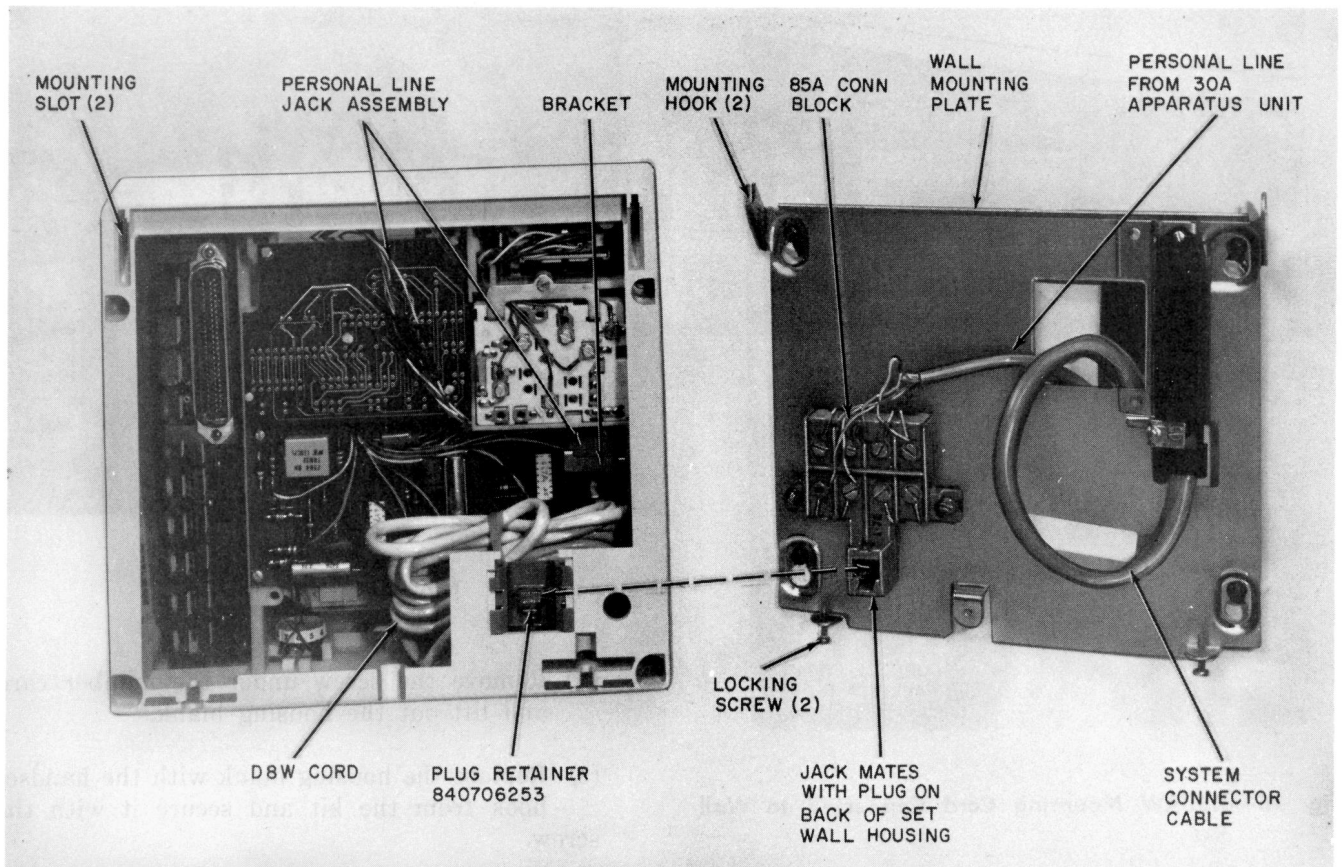

Fig. 14—Basic Satellite Wall Set Disassembled
(b) In some installations, a connector cable may be concealed in the wall and brought through an opening behind the telephone set (Fig. 14).
- (j) Snap the plug retainer onto the wall housing (Fig. 14) so that the cord plug will mate with the jack in the 85A connecting block to be mounted on the wall plate (see 3.21).
(c) Mount the 85A block on the wall mounting plate with the two screws supplied with the plate (Fig. 14).